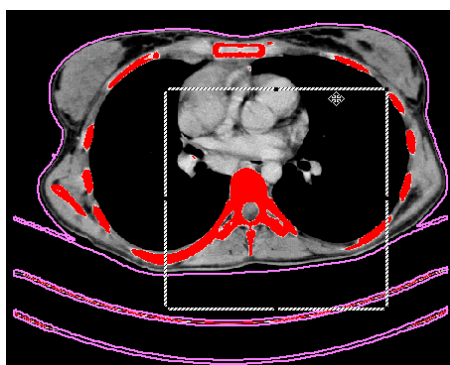

Figure 242 – Moving the rectangle constraint
- Move the rectangle or drag the sides to change its size until the desired area is demarcated (see Figure 242).